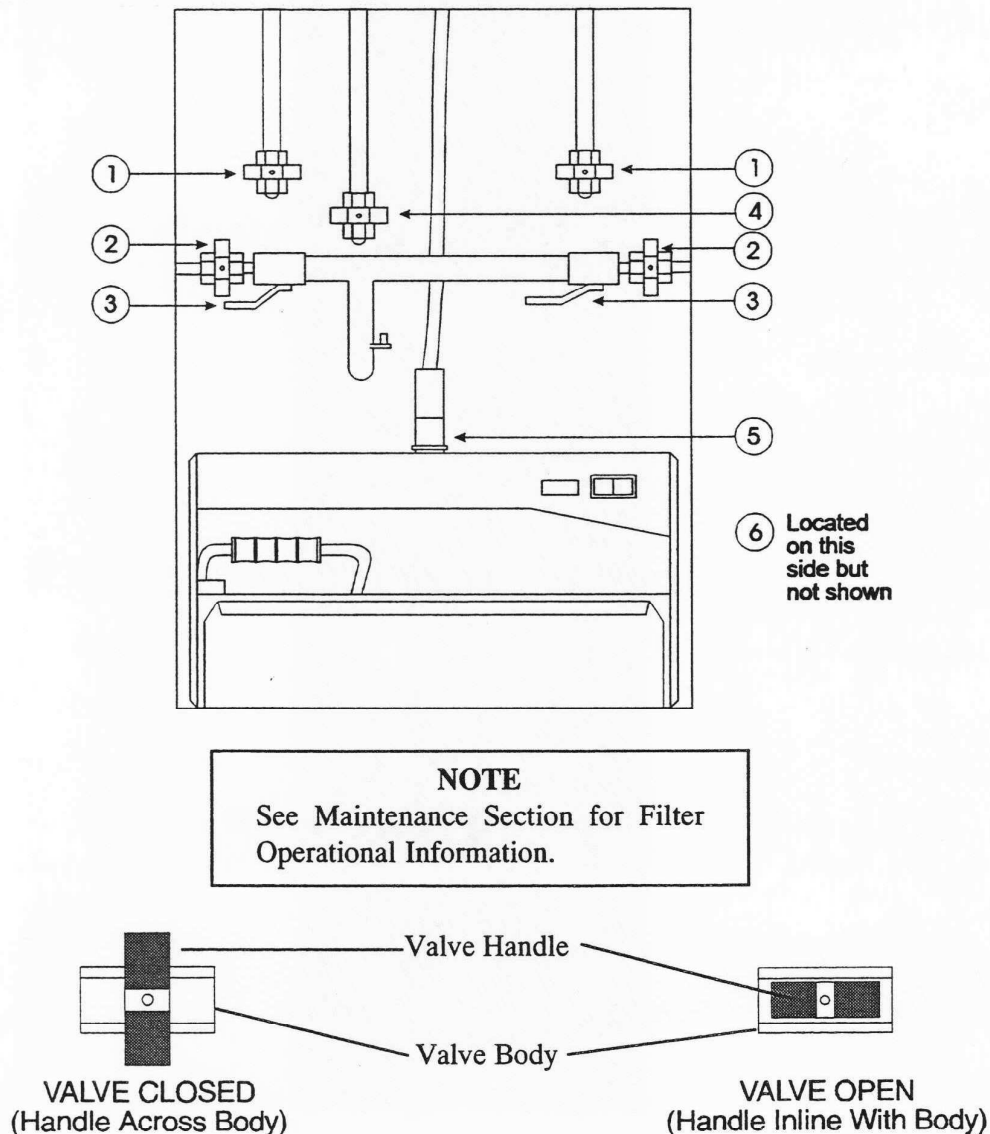
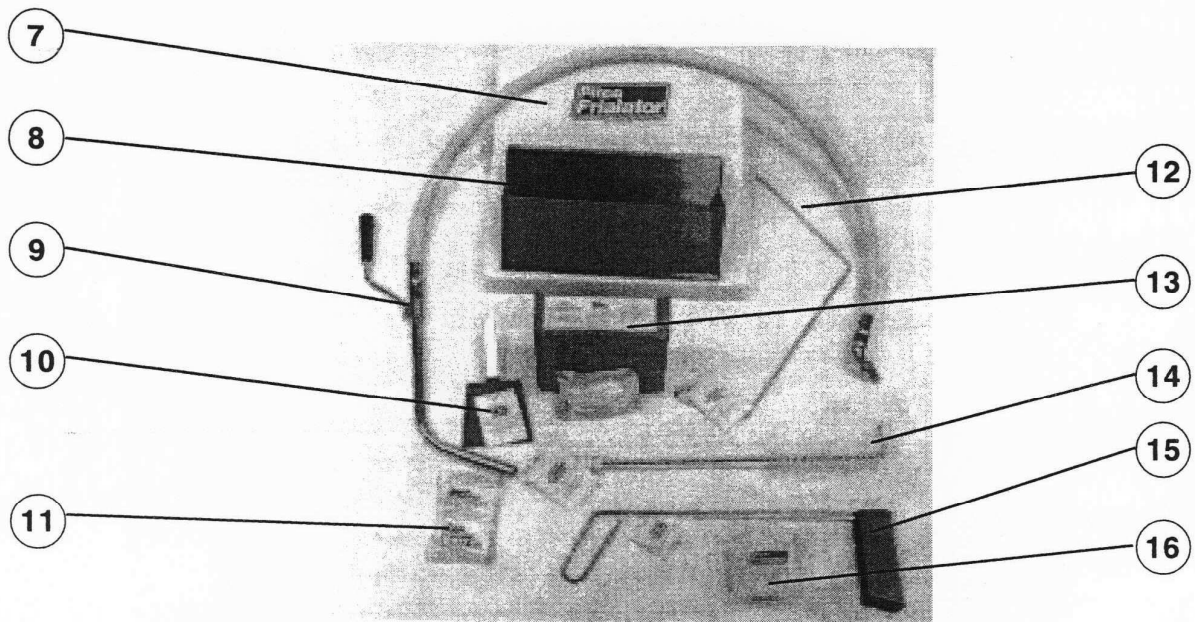

Figure 2-1 Fryer Illustrating Filter Components
Figure 2-2 Filter Tools and Accessories
This section describes the procedures used to filter fryers using either the UFM or built in filter units. Figure 2-1 shows the locations of the components used in the filter process. The fryer in Figure 2-1 is a UFM filtered unit. The callouts in the figure point to the components discussed in the filter procedure. These component locations should be representative of either filter system. Figure 2-2 shows the filter accessories and tools you should have to perform normal filtering operations. The components and accessories are described after Figure 2-2. The illustrations used with the filter procedures are provided to show where the oil is going and which valves are open. Frequent filtering of your shortening will prolong the shortening's usable life. Daily shortening filtering is strongly recommended.
2.6.2 Filter Procedures: Numbers in parenthesis refer to Figures 2-1 and 2-2.